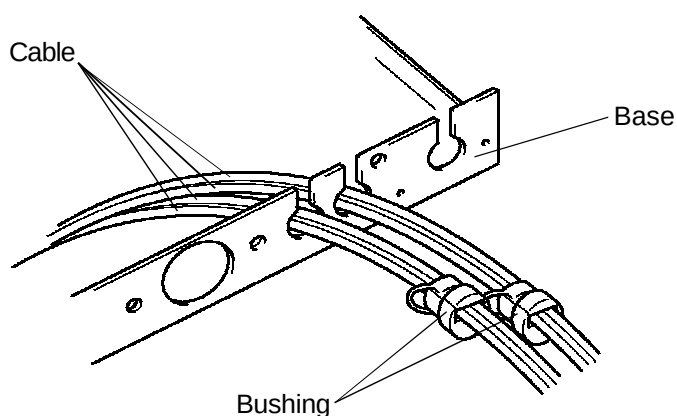

Fig. 14
- 6) Remove two blind bushings from the unit base and attach the cables to the unit base using the bushings attached to the Float Switch. See Fig. 14.